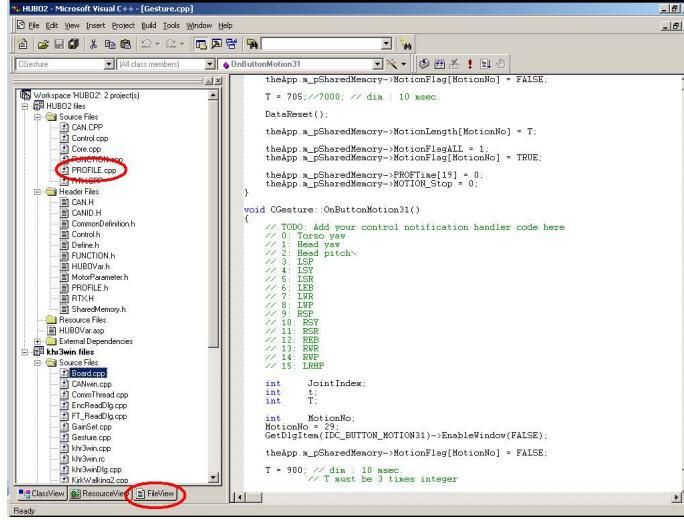

Figure 33: Next go to File View and open PROFILE.cpp in the HUBO2 files
8. Next go to File View and open PROFILE.cpp in the HUBO2 files → Source Files section, see Figure 33